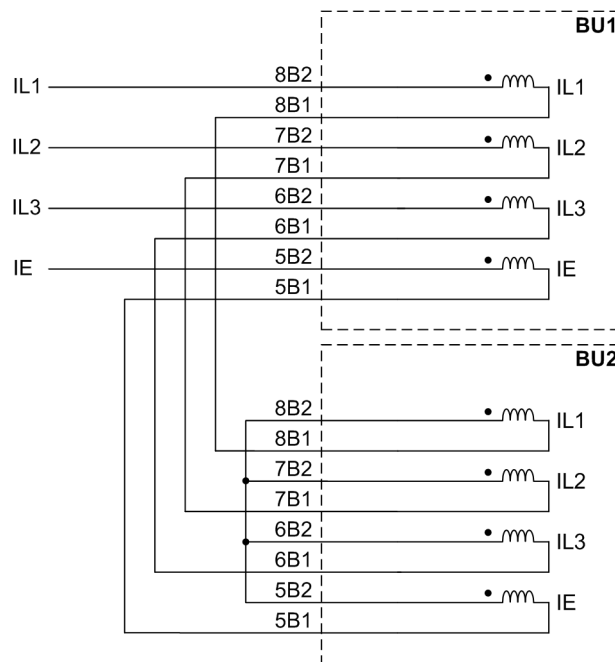

Figure 7-1 Connection of the current inputs of the bay units in bus couplers with only one current transformer.
- ❑ If you have couplers with one transformer, connect the current inputs of the bay units in series per phase (Figure 7-1, page 260).